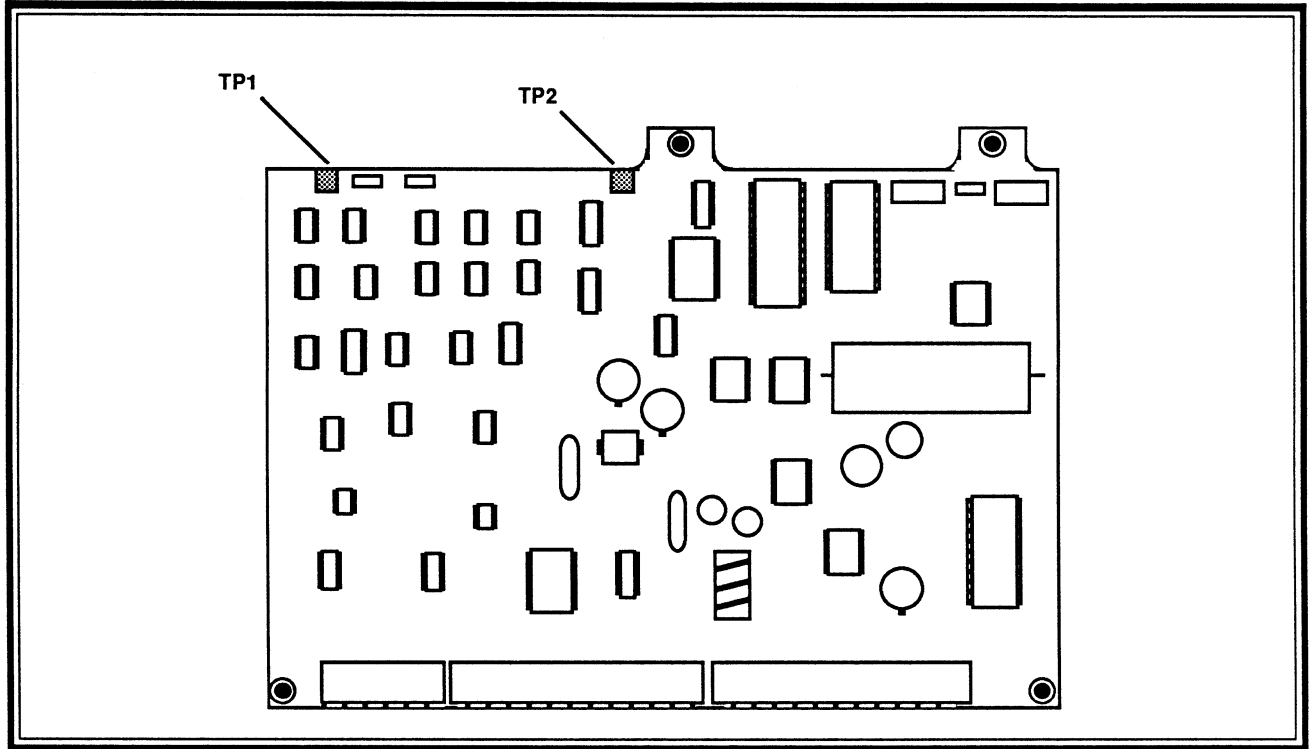

Figure 2. Sweep Board Test Points
- c. Adjust the Vert Gain, R1066 (Figure 2) for a full graticule screen display.
- e. Set TIME/DIV to MNL. Monitor TP2 on the Sweep board (Figure 2) with a voltmeter (Digital Multimeter). Set the MANUAL SCAN control for 0.0V reading on the voltmeter (TP2). Set the horizontal POSITION control to center the crt beam (dot).